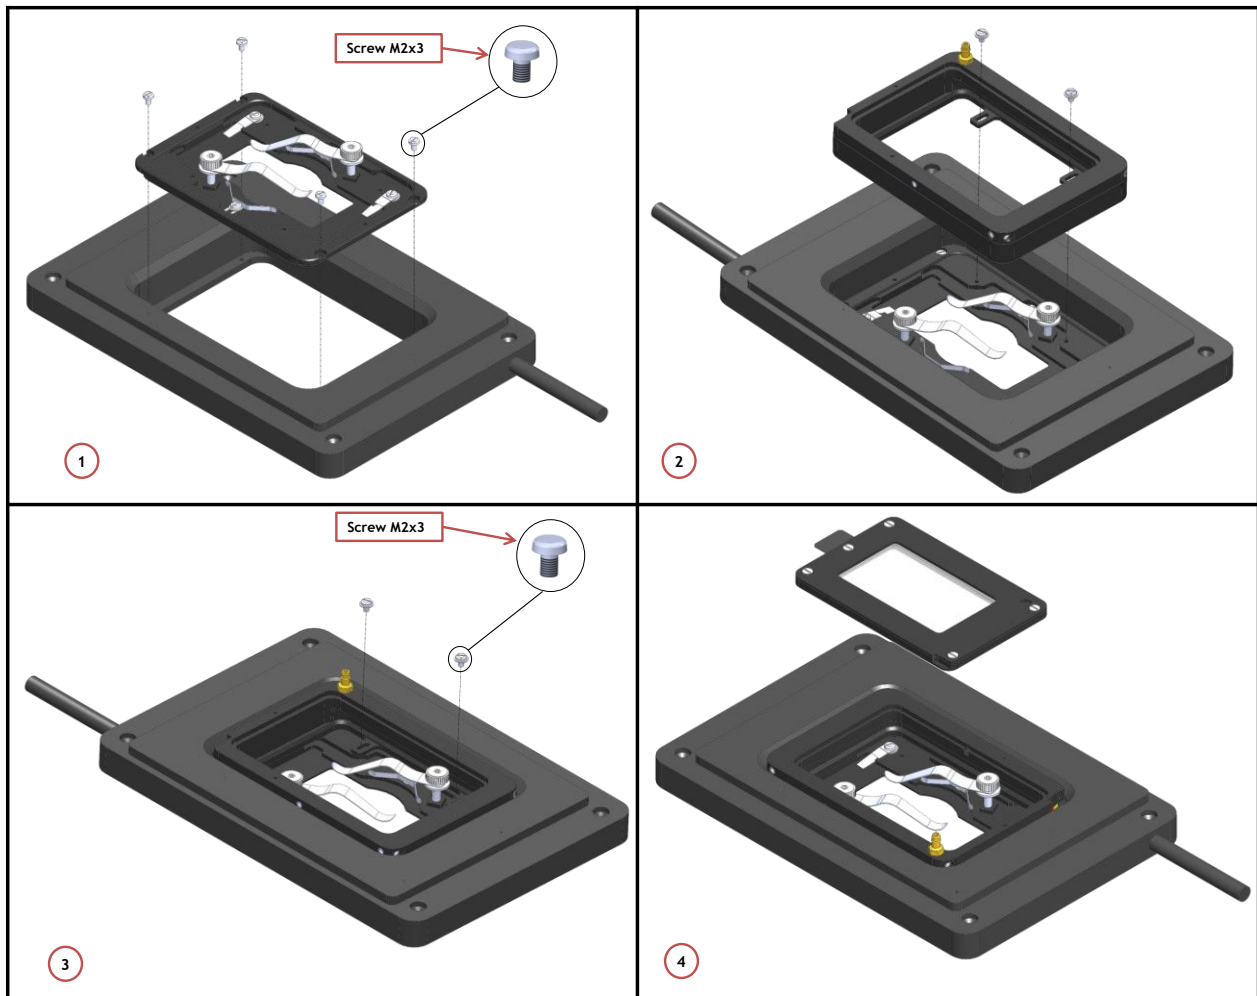

Figure 8. How to assemble the chamber to the stage.
Follow the steps shown in the images of Figure 8 and listed below in order to correctly connect the chamber with Z piezo stage:
1. Place the sample holder on the stage and tighten the four M2x3 Pan head screws, as shown in Figure 8 Image 1
2. Place the chamber main body on the stage and tighten the two M2x3 Pan head screws, as shown in Image 2 and 3 Figure 8
3. Place the lid on the chamber, as shown in Image 3 of Figure 8